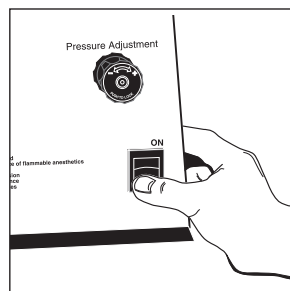

Figure 4
6. Before plugging in the power cord, make sure the power switch is in the "Off" position by pressing on the bottom half of the switch **Figure 4**. Plug the power cord into a properly grounded wall-outlet power source.